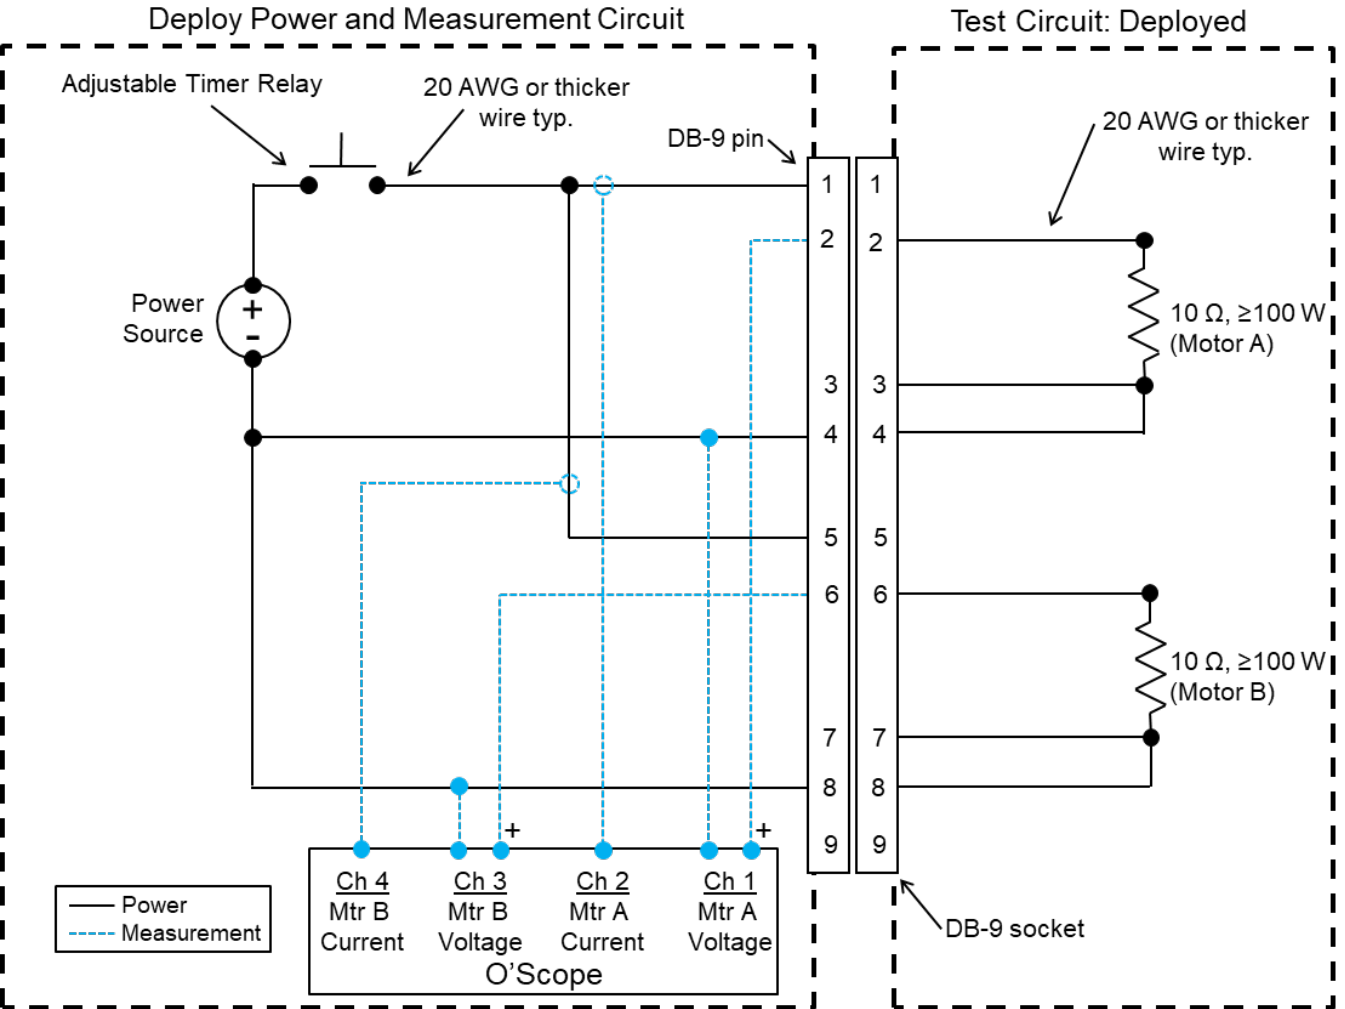

Figure 11-3: Deploy test circuit #3
11.3.1	Set up the Test Circuit: Deployed portion of Deploy Test Circuit #3 per Figure 11-3 and connect to the Deploy Power and Measurement Circuit .